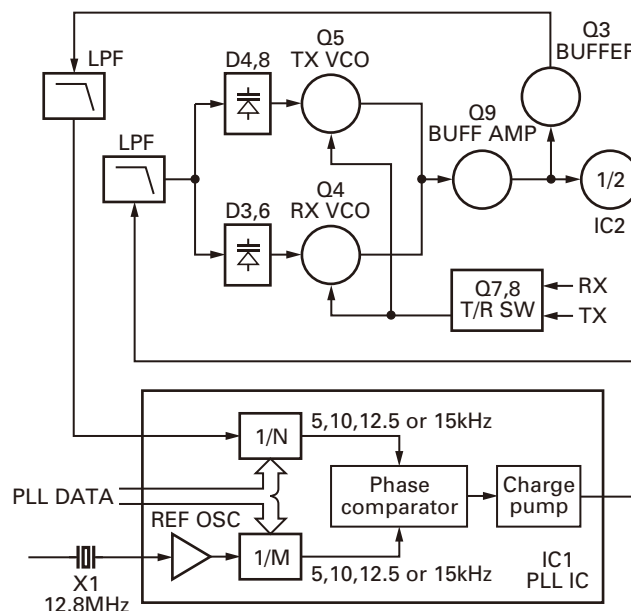

Fig. 5 PLL circuit / 图 5 PLL 电路
A 12.8MHz reference oscillator signal is divided at IC1 by a fixed counter to produce an oscillator (VCO) output signal which is buffer amplified by Q3 then divided in IC1 by a programmable counter. The divided signal is compared in phase with the 5, 10, 12.5 or 15kHz reference signal from the phase comparator in IC1. The output signal from the phase comparator is filtered through a low-pass filter and passed to the VCO to control the oscillator frequency. (See Fig. 5)
12.8MHz 的参考振荡信号在 IC1 中被一个固定计数器分频。振荡器 (VCO) 的输出信号由 Q3 缓冲放大, 然后在 IC1 中被一个可编程双模块计数器分频。分频的信号在 IC1 的相位比较器中进行比较。生成的信号通过一个低通滤波器滤波后传送到 VCO 控制振荡器频率。(见图 5)